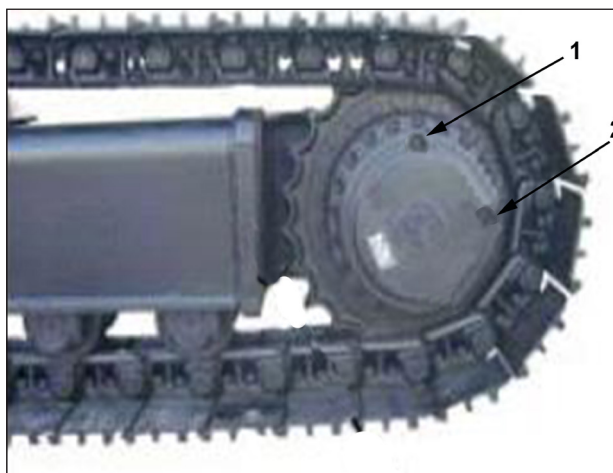

Figure 6.6 - Gearbox Oil Level Fill Position
1. Move the machine to a level surface and bring the oil drain holes to the position shown in Figure 6.6.
5. Fill the oil through the upper hole (item 1) until it runs out through the lower hole (item 2), Ref: Figure 6.6.
5. Move the machine to bring the plugs to the fill position shown in Figure 6.6.